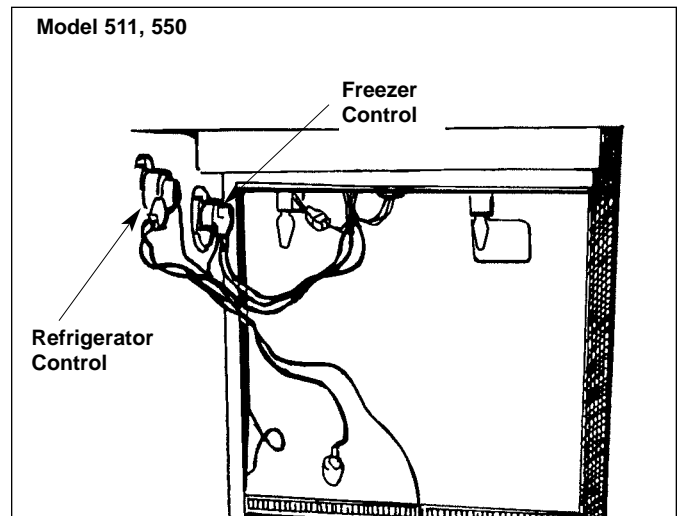

Figure 2-58. Controls Location and Routing
5. **Freezer Control** -The freezer control cap tube is routed to the back of the freezer, through a plastic tube from the refrigerator to the freezer area (Figures 2-58 & 2-59). Straighten the control bulb and pull back through. When reinstalling, push the bulb through the tube, then coil the excess bulb at the outlet.